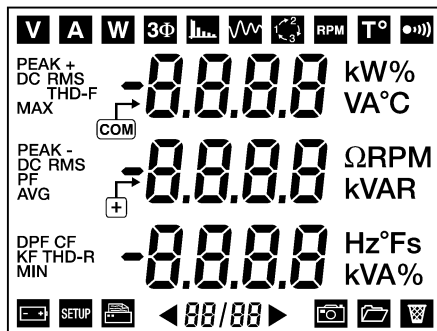

Figure 64: The first screen on start-up.
- When the first screen is displayed (display of 172 segments, see Figure 64, on page 25), pres and hold the yellow key () until a beep is heard.